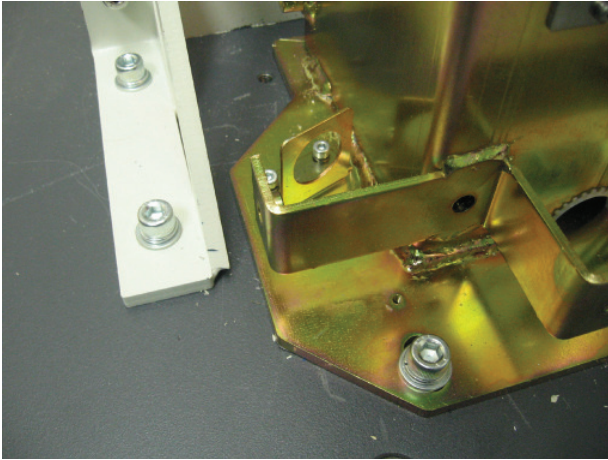

Figure 2: 'L' Bracket
3. Ground AC service to L-bracket using an electrician supplied fitting listed for grounding, or other approved method in accordance with the local electrical code (see Figure 2). A 0.875" hole is provided in the bracket suitable for 1/2" conduit.